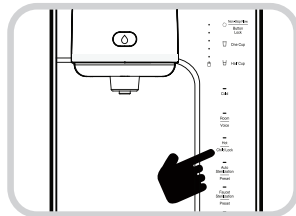

Fig. 11
2. Select the Mood Lamp function by pressing the Hot/Hot Water Lock button. (Fig. 11).